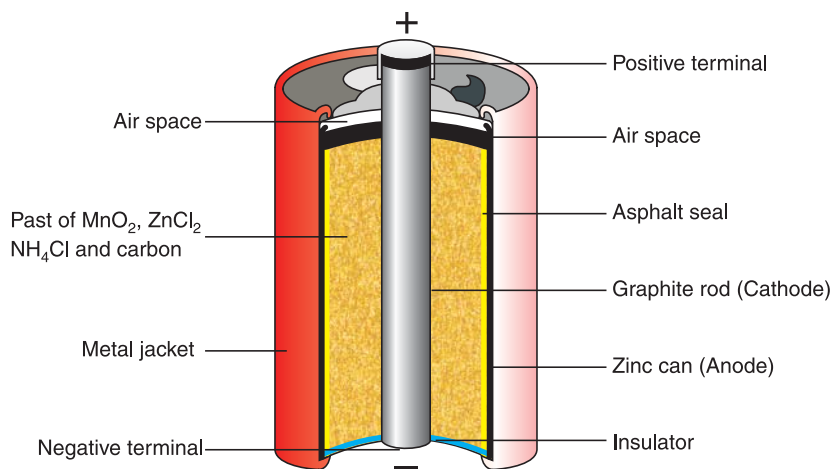

Figure 3.8 Zinc-carbon dry cell (Leclanche cell).
A zinc-carbon dry cell, which is also called a **Leclanche cell** (**Figure 3.8**) is used in devices like portable radios and flashlights. The cell consists of a zinc cup that serves as the anode. The zinc cup is filled with a paste of manganese (IV) oxide, zinc chloride, ammonium chloride and powdered carbon. A graphite rod, immersed in this paste, serves as the cathode.
The non-metals like H_2 , Cl_2 , F_2 etc are manufactured on an industrial scale by the process called electrolysis. The metal aluminium is extracted industrially by the **Hall Process**. This process involves the electrolysis of molten alumina (Al_2O_3) mixed with some amount of cryolite, Na_3AlF_6 . The role of cryolite is to reduce the melting point of alumina from 2000°C to 1000°C . The vessel holding the molten mixture (Figure 3.8) is made up of iron lined with carbon, which serves as the cathode. Carbon (*graphite*) rods that serve as the anode are inserted into the melt. When the molten mixture is electrolyzed, pure aluminium is produced. The reactions at the electrodes are: